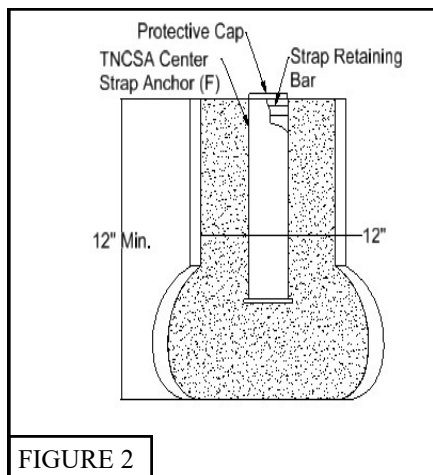

FIGURE 2
3. Dig one 8" round and a minimum 12" deep hole centered between the two tennis posts (make sure to bell out the bottom of the hole). Insert *TNCSA Center Strap Anchor* (F) with the strap retaining bar running parallel with the *TN10N Net* (D) and fill hole with concrete. The hole will require 2 to 3 1/3 cubic bags of concrete. See Figure 2.
4. Concrete must cure 7-10 days before continuing with *TN10N Tennis Net* (D) installation.
10. Attach *TN10CS Center Court Hold Down Strap (E)* to the strap retaining bar in the *TNCSA Center Strap Anchor (F)*. Adjust *TN10CS Center Court Hold Down Strap (E)* so top of *TN10N Tennis Net (D)* measures 36" at the center. See Figure 2.